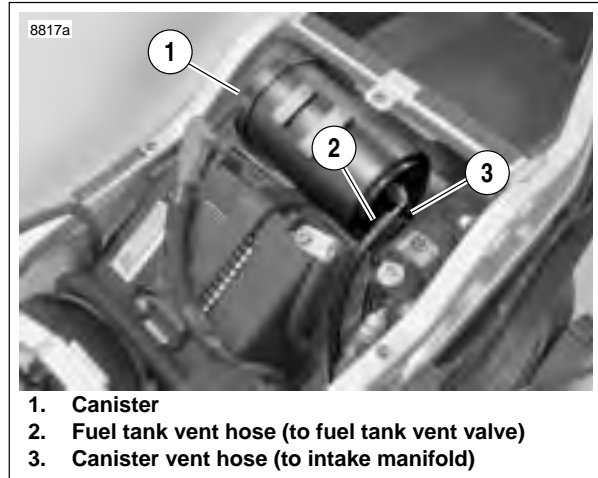
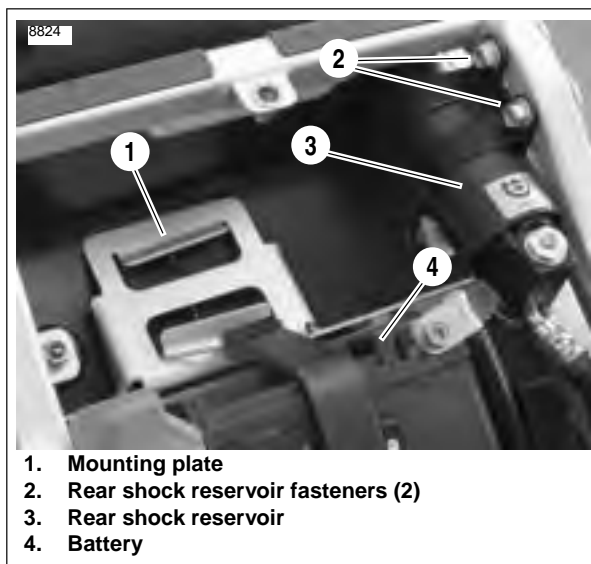

Figure 4-117. Carbon Canister Installation.
Figure 4-119. Carbon Canister Mounting
2. See Figure 4-117. The canister assembly mounts behind the battery in the tail section.
3. Label and disconnect the fuel tank vent hose (2) and canister vent hose (3) from the canister.
4. See Figure 4-119. Remove rear shock absorber reservoir fasteners (2). Move reservoir assembly away from canister.
5. Slide canister towards left side of vehicle to disengage from mounting plate (1).
2. See Figure 4-117. Attach fuel tank vent hose (2) to canister if disconnected.
1. See Figure 4-119. Slide canister into position on canister mounting plate (1).
2. Place rear shock reservoir assembly (3) into position.
3. See Figure 4-119. Install reservoir mounting fasteners (2). Tighten fasteners to 120-144 **in-lbs** (13.6-16.3 Nm).
4. See Figure 4-117. Connect two hoses to the canister. Make sure to push hoses all the way on to carbon canister fittings.